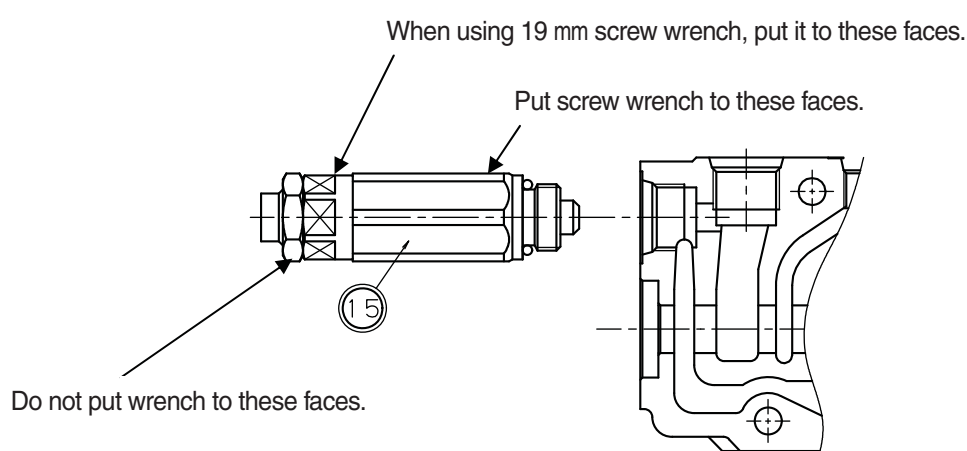

Fig.7 Removing main relief valve and overload relief valve
Taking ORV in the arm component as an example, the removal procedures are as follows (see Fig.7)
- ① Loosen and remove ORV (⑮) with 22 mm screw wrench or deep socket wrench.
- If there is no 22 mm screw wrench (or deep socket wrench), it is also possible to loosen and remove by putting 19 mm screw wrench to the hexagonal part as shown in the fig.7.